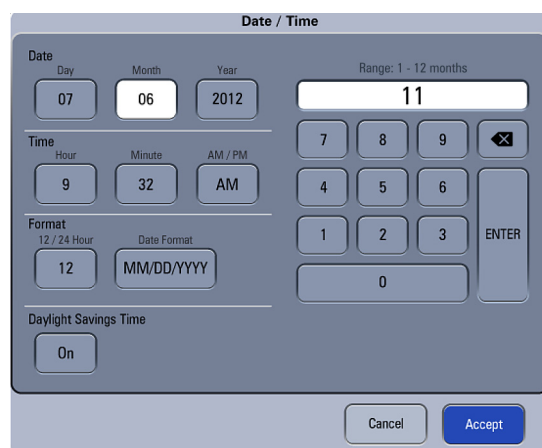

FIGURE 3-8 Date and Time Menu
1. Select the Date and Time icon. The Date/Time dialog is displayed (FIGURE 3-8).
NOTE: If the Daylight Savings Time On/Off button in the Date/Time dialog (see Figure 3-8) is inactive and cannot be selected, it is because the Daylight Savings setting has been set to Auto in the System settings (see Table 3-3, "System tab settings," on page 27).